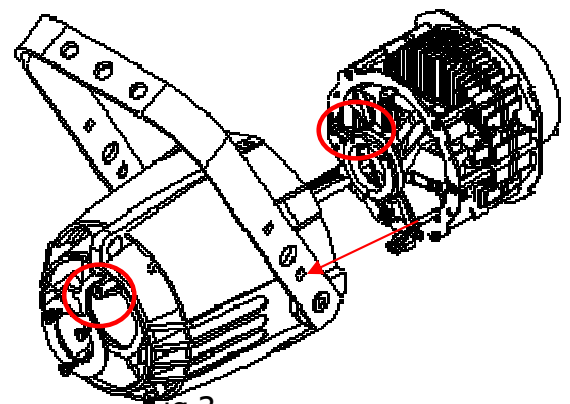

Fig.3
7. Accommodate the HPLLED II in the Source 4 body. Ensure the correct inward direction is followed as remarked by the 2 red round ring references. Make also sure to follow the red arrow direction as shown in figure 3. During such operation make sure that the 3 connecting cables (i.e. power cable, DMX cable and display cable) are not squeezed, while being lead through loop-holes, during reassembling of the unit.